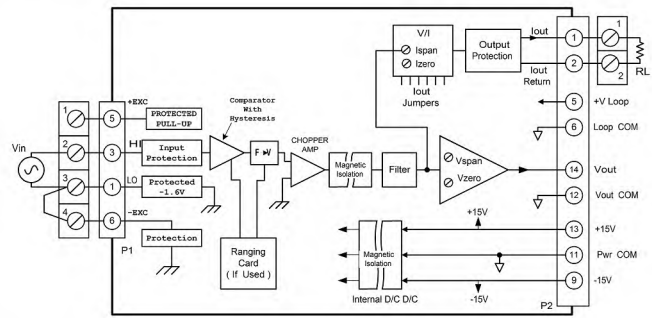

Figure 2.1.13.1 3B45 and 3B46 Functional Block Diagram
Figure 2.1.13.1 shows a functional block diagram for models 3B45 and 3B46. Input protection of up to 220V rms is provided on the four input screw terminals. The input signal is compared to the selected threshold and hysteresis and the comparator's output frequency is converted to a voltage. The signal is then amplified and filtered to give the high level voltage output. Chopper based amplification is used to assure low drift and excellent long term stability. Transformer coupling is used to achieve stable, galvanic isolation between input and output. Both the voltage and current outputs can be independently adjusted over a ±5% span range from zero and span with the front panel accessible potentiometers. The current output which has 130V output protection interfaces with user equipment through screw terminal connections.
1. Connect model 3B45 (3B46) as shown in Figure 2.1.13.1 with  $R_L = 250\Omega$ .